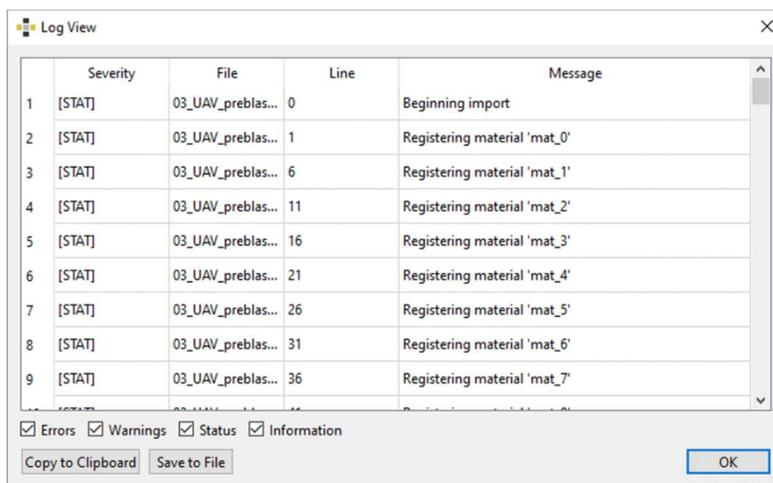

Figure 6: Log View dialog
4. A detailed view (*Log View* dialog; see Figure 6) on the import can be called up in the appearing dialog